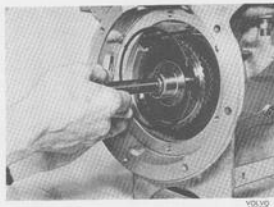

Fig. 4-124. Installation sequence, front clutch snap ring, input shaft and thrust washer
18. Fit the pressure plate, inner and outer plates, and hub. Fit the thrust washer for the clutch hub and input shaft into the front clutch, see Fig. 4-124. Fit the snap ring.